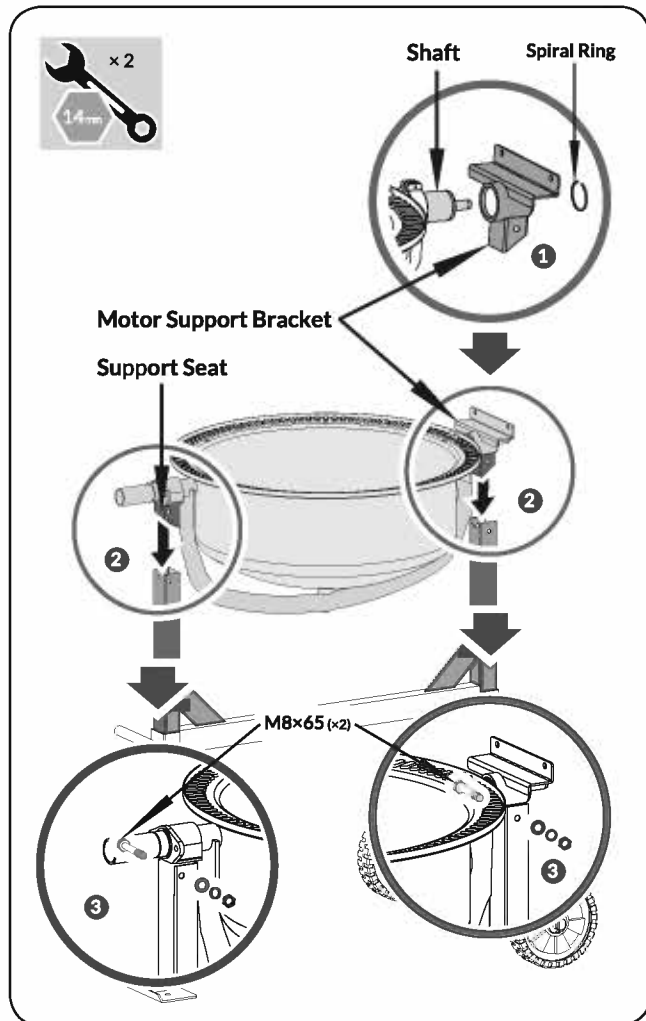

Figure 2
1. Slide the motor support bracket on the shaft. Hold it in place with Ø42 spiral ring. (See **Figure 2, illustration 1**)
2. Carefully place the bottom drum with support arm onto the side supports of the stand as shown. (See **Figure 2, illustration 2**). The motor support bracket and support seat should slide into the side support channel on each side. The larger diameter shaft should be at the leg end of the stand.
3. On each side, line up the holes in the side support with those in the bearing block and insert a M8×65 hex bolt from one side, then a flat washer, lock washer and nut from the other side. Tighten with a wrench. (See **Figure 2, illustration 2-3**)